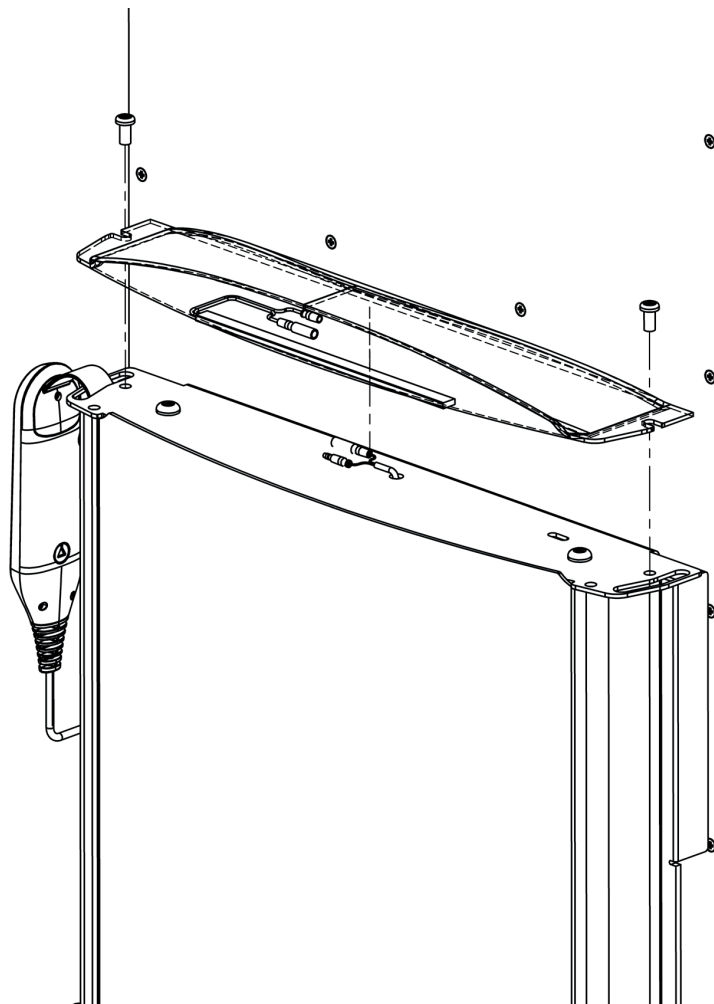

Fig 12.6a
- Remove the two screws from the top of the SBU as shown in Fig 12.6a.
- Fit the light housing to the top of the SBU using the previously removed screws as shown in Fig 12.6a.